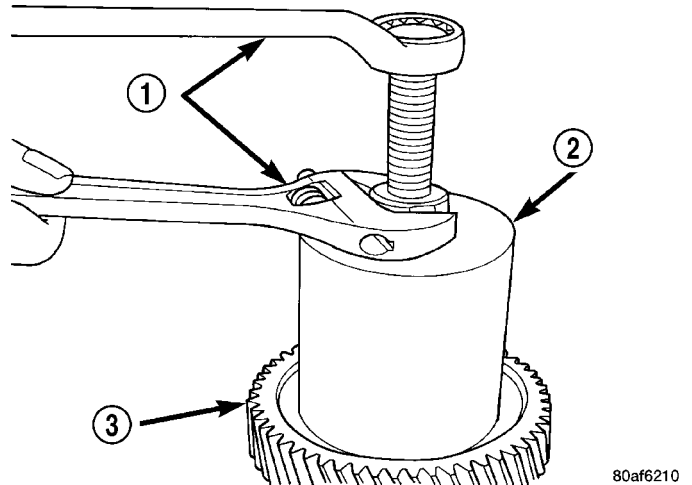

Fig. 57 Remove Transfer Gear Bearing Cone
(41) Remove transfer gear bearing cone using setup shown in (Fig. 57).